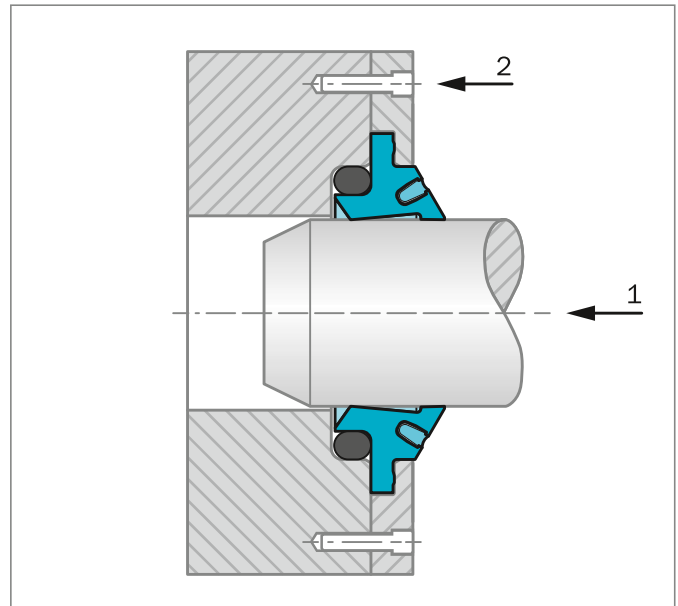

Figure 174: Installation and calibration of the Turcon® Excluder® S by the rod or a calibration mandrel
- Insert the rod - check whether rod has the recommended lead-in chamfer; if not, use a calibration mandrel - see Figure 174 **point 1**
- Tighten the cover - see Figure 174 **point 2**